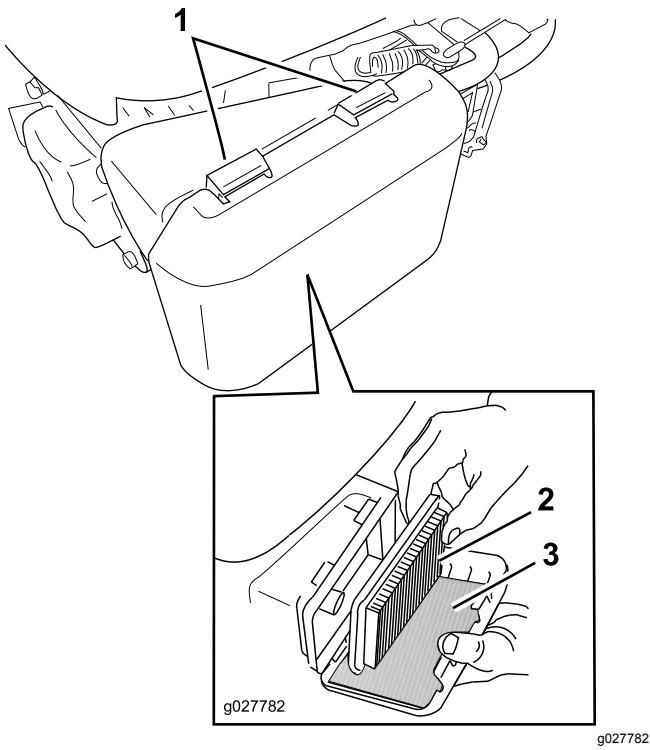

Figure 22
1. Press down on the latch tabs on top of the air-filter cover (Figure 22).
3. Remove the paper air filter and the foam pre-filter (Figure 22).